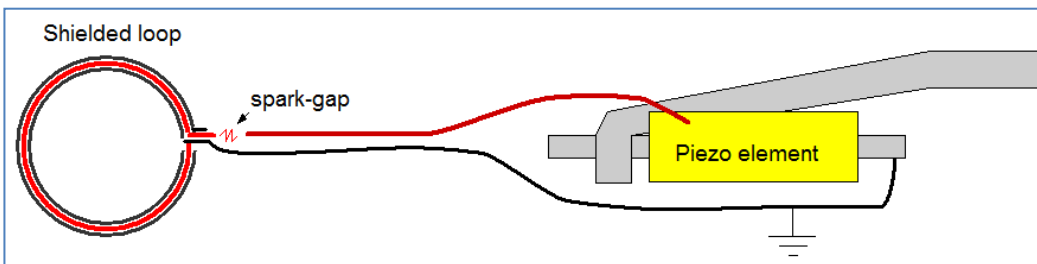

FIGURE 32
c. Magnetic pulse field generator. (Figure 32)